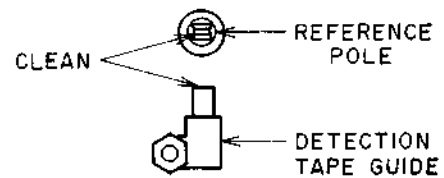

Fig. 9-2
**NOTE:** Clean the reference pole and the Detection tape guide before adjustment (Refer to Fig. 9-2)